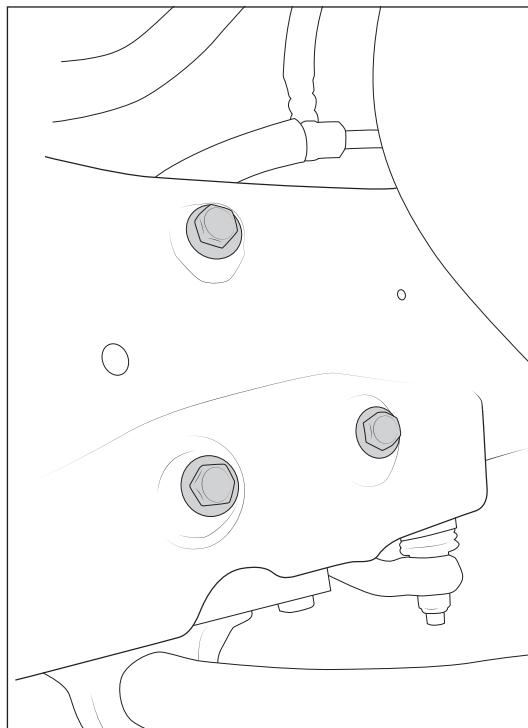

Figure 4
6. Remove the three bolts on the outside of the frame that hold the steering box in place (fig. 4).